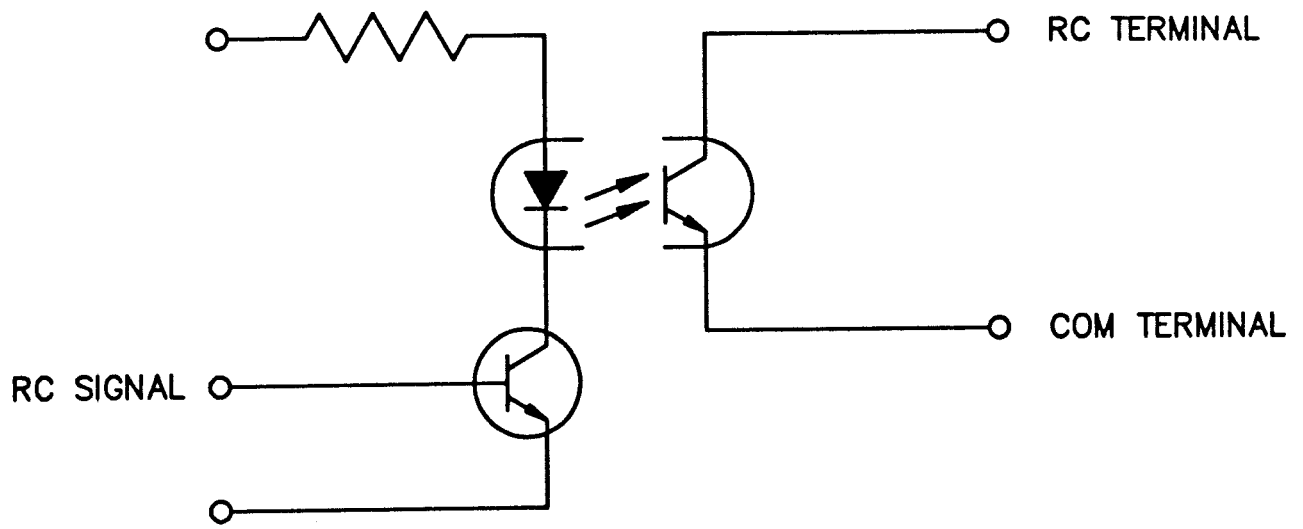

FIGURE 3 RECOMMENDED REMOTE ON/OFF INPUT CIRCUIT TO THE RC TERMINAL OF THE FPD 50-12 POWER SUPPLY
The following input signals applied to the RC terminal, control the output voltage (see Figure 3).
3. The input circuit to the RC terminal should be designed with a photo coupler or relay (see Figure 3)